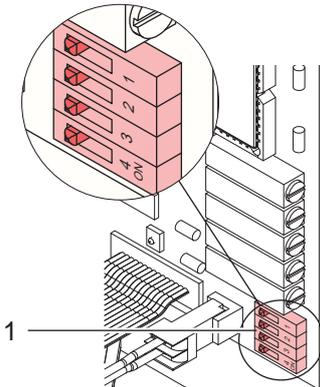
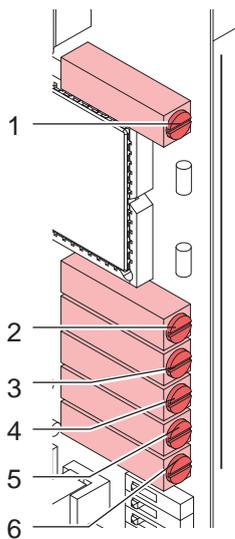

Figure 14 DIP switches
Figure 15 Potentiometer
After removing the cover (2) of the manifold, 6 potentiometers (Figure 15) as well as 4 DIP switches (Figure 14) become accessible by which the parameters can be set.